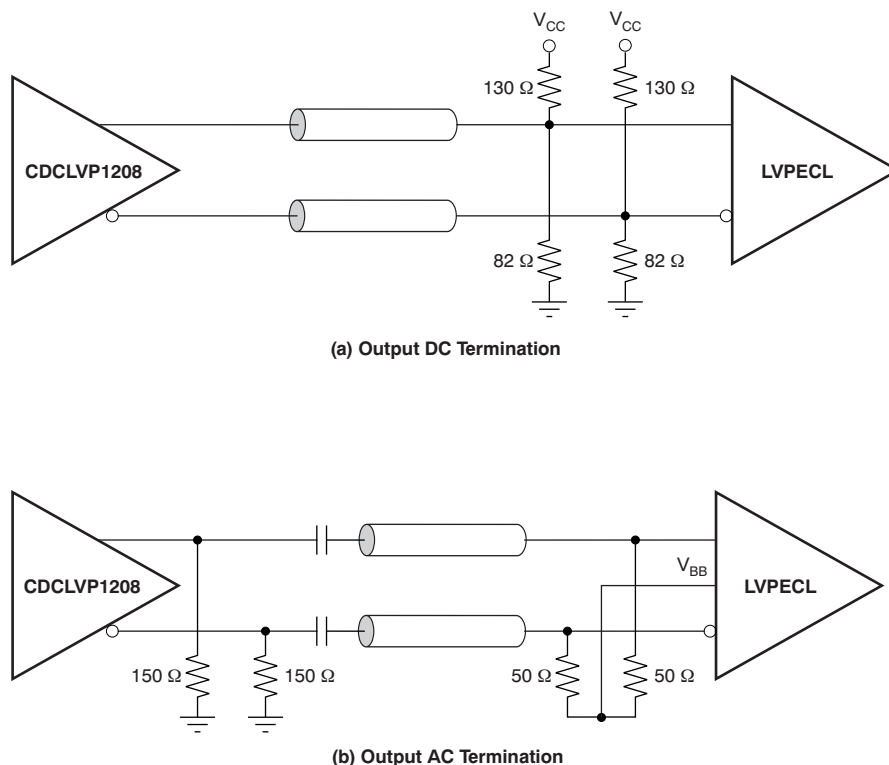

Figure 13. LVPECL Output DC and AC Termination for $V_{CC} = 3.3\text{ V}$
The CDCLVP1208 is an open emitter for LVPECL outputs. Therefore, proper biasing and termination are required to ensure correct operation of the device and to minimize signal integrity. The proper termination for LVPECL outputs is a $50\ \Omega$ to $(V_{CC} - 2)\text{ V}$, but this DC voltage is not readily available on PCB. Therefore, a Thevenin equivalent circuit is worked out for the LVPECL termination in both direct-coupled (DC) and AC-coupled configurations. These configurations are shown in Figure 12 (a and b) for $V_{CC} = 2.5\text{ V}$ and Figure 13 (a and b) for $V_{CC} = 3.3\text{ V}$, respectively. It is recommended to place all resistive components close to either the driver end or the receiver end. If the supply voltage for the driver and receiver is different, AC coupling is required.